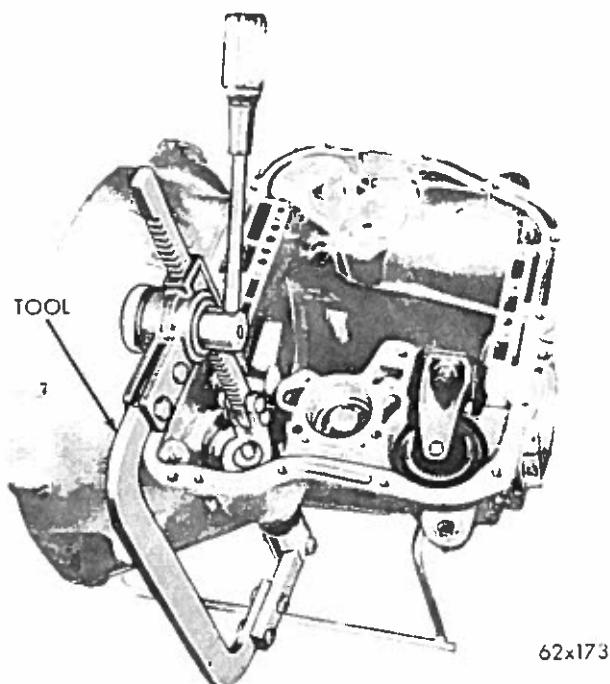

Fig. 47—Compressing Kickdown Servo Spring
(1) Compress the kickdown servo spring by using "Engine Valve Spring Compressor Tool C-3422" then remove the snap ring (Fig. 47).
(2) Remove the rod guide, springs and piston rod from the case. Be careful not to damage piston rod or guide during removal.
(3) Insert Tool C-484 inside piston and withdraw piston from the transmission case.